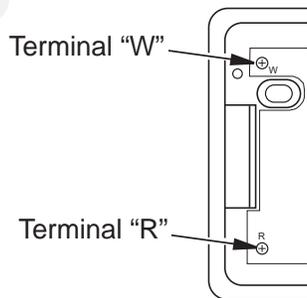

Figure 23 - Thermostat Base Terminals "W" and "R"
6. Connect one bare wire end to each terminal ("W" and "R") of the thermostat base (see **Figure 23**).